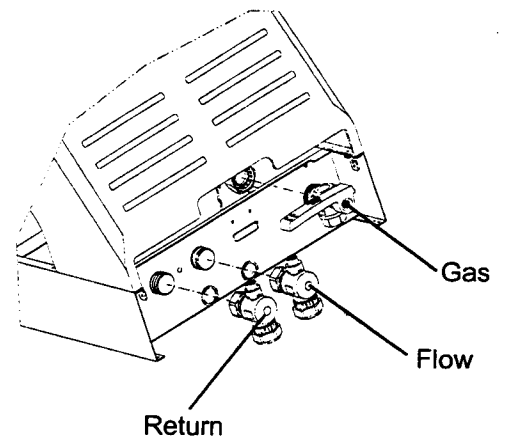

Fig.10a
- 5.3.4 Loosely fit (hand tight) the valves and fittings using the washers supplied (Fig.10a). Face the valves towards the back of the appliance.